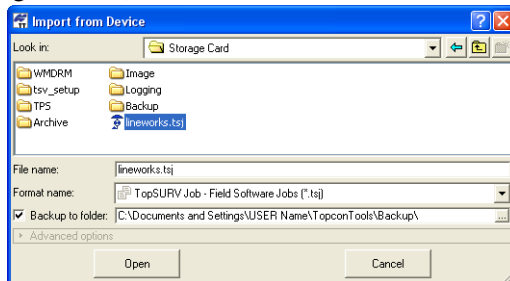

Figure 3-38. Select the TSJ File to Import
4. To import the file(s) from the controller to the current job, set the corresponding file format in the *Format name* field and click **Open** (Figure 3-38).